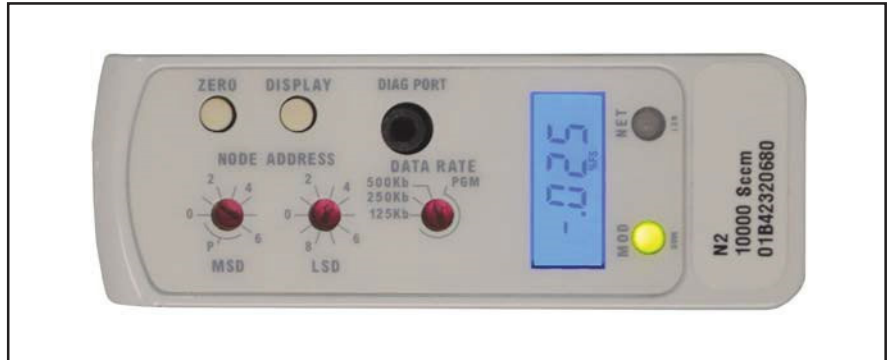

Figure 2-6 Display Set to %FS
2. Looking at the top of the PC125 Series, press the “Display” button until the LCD display label is “%FS” as shown in Figure 2-6. Three button depressions from the MACID label display.